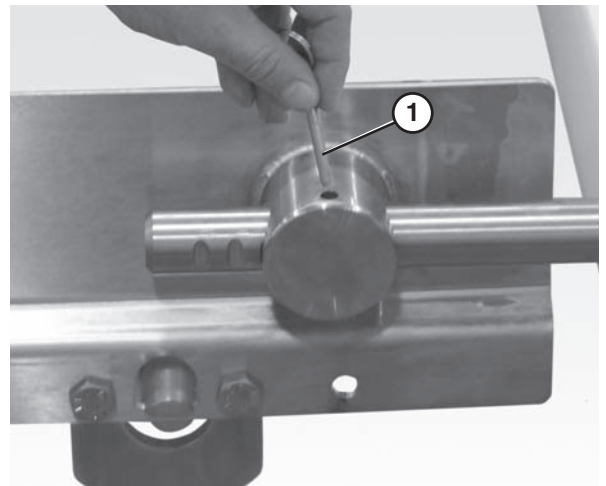

Figure 51
2. Remove the pull pin (**Figure 51, item 1**) on the tension end of the conveyor to release belt tension.